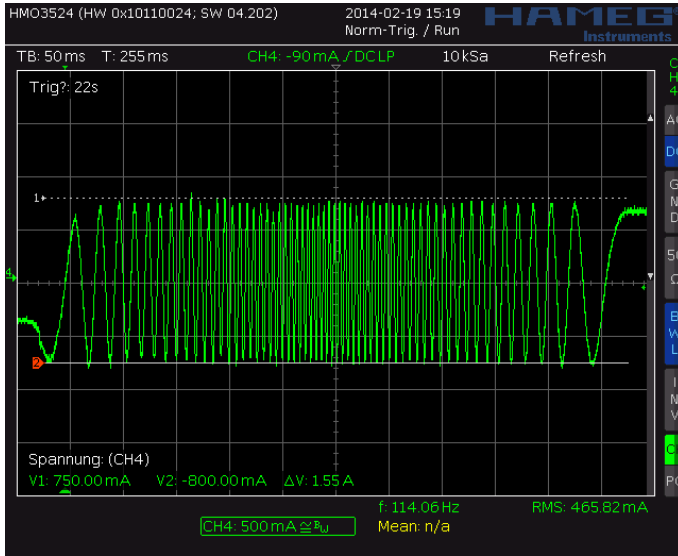
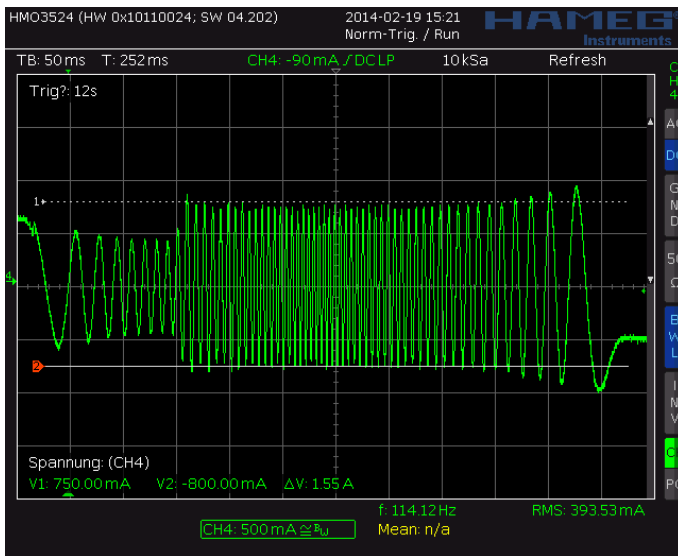
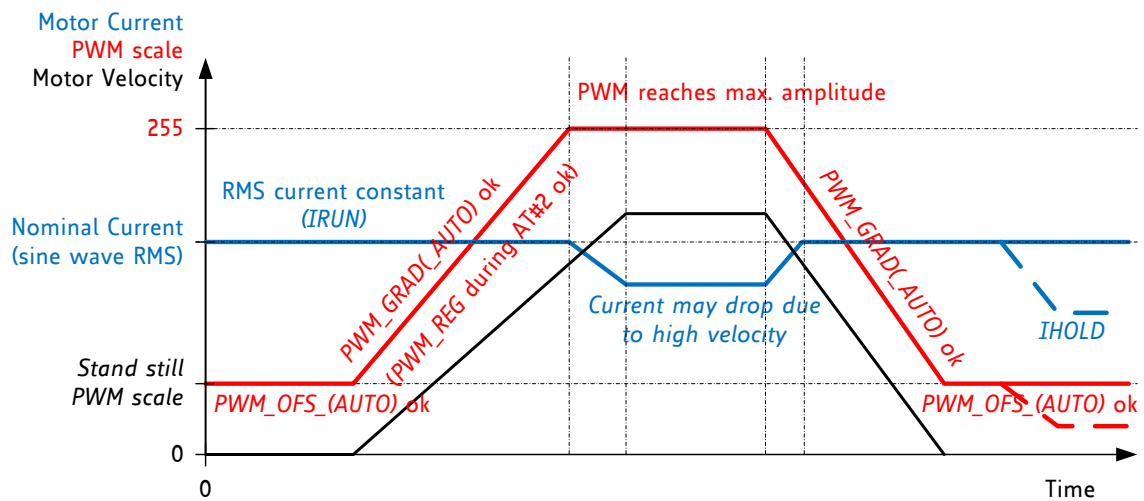

Figure 6.3 Scope shot: good setting for PWM_REG
Figure 6.4 Scope shot: too small setting for PWM_REG during AT#2
Figure 6.5 Successfully determined PWM_GRAD(AUTO) and PWM_OFs(AUTO)
In StealthChop voltage PWM mode, the autoscaling function ($pwm_autoscale = 1$, $pwm_autograd = 1$) regulates the motor current to the desired current setting. Automatic scaling is used as part of the automatic tuning process (AT), and for subsequent tracking of changes within the motor parameters. The driver measures the motor current during the chopper on time and uses a proportional regulator to regulate PWM_SCALE_AUTO in order match the motor current to the target current. PWM_REG is the proportionality coefficient for this regulator. Basically, the proportionality coefficient should be as small as possible in order to get a stable and soft regulation behavior, but it must be large enough to allow the driver to quickly react to changes caused by variation of the motor target current (e.g. change of $VREF$). During initial tuning step AT#2, PWM_REG also compensates for the change of motor velocity. Therefore, a high acceleration during AT#2 will require a higher setting of PWM_REG . With careful selection of homing velocity and acceleration, a minimum setting of the regulation gradient often is sufficient ($PWM_REG=1$). PWM_REG setting should be optimized for the fastest required acceleration and deceleration ramp (compare Figure 6.3 and Figure 6.4). The quality of the setting PWM_REG in phase AT#2 and the finished automatic tuning procedure (or non-automatic settings for PWM_OFS and PWM_GRAD) can be examined when monitoring motor current during an acceleration phase Figure 6.5.